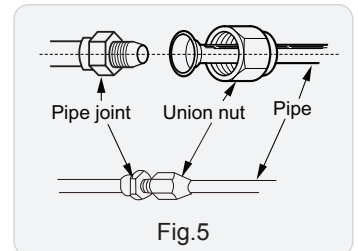
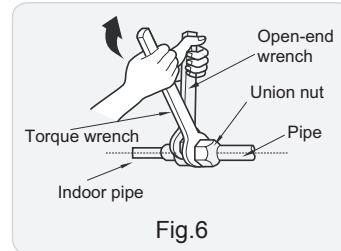

Fig.5
Fig.6
(2) Aim the pipe joint at the corresponding bellmouth.(As show in Fig.5)
(3) Pretightening the union nut with hand.
(4) Adjust the torque force by referring to the following sheet. Place the open-end wrench on the pipe joint and place the torque wrench on the union nut. Tighten the union nut with torque wrench.(As show in Fig.6)